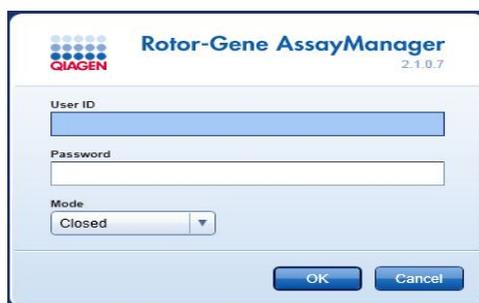

Figure 6. Rotor-Gene AssayManager login screen.
13. Open the Rotor-Gene AssayManager software by clicking the icon: . The Rotor-Gene AssayManager window opens (Figure 6).